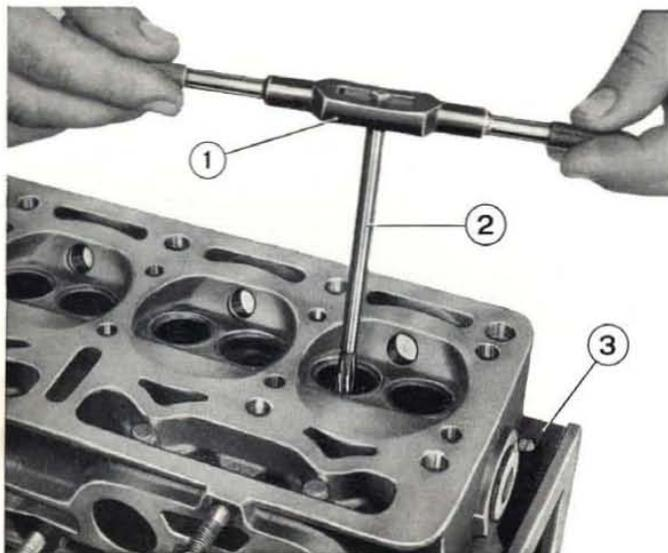

Fig. 104 - Reaming valve guides.
**NOTE - Valve guides are supplied for service in a finished condition. In case the guides should be exceptionally refaced to remove dents from press fitting, use reamer A. 90313 (fig. 104).**